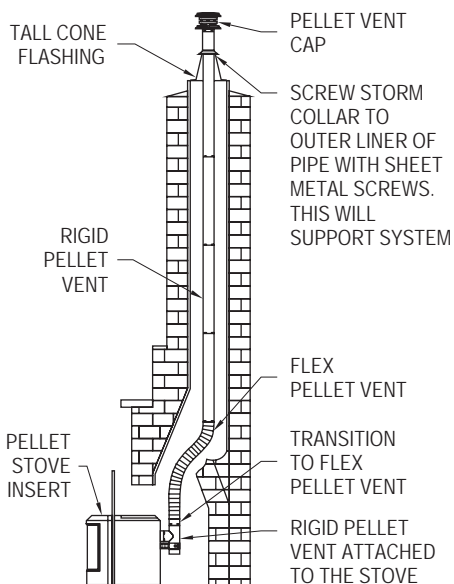
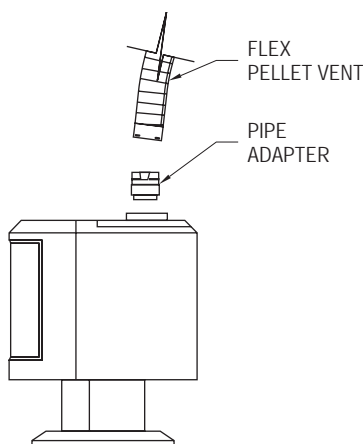

Figure 10
Figure 11
8. In making the connection at the appliance, configurations other than the one shown in *Figure 10* may be made. It may be necessary to contact the manufacturer of the unit to determine exactly what may or may not be done to make the correct connection. Some typical arrangements are shown in *Figures 11 and 12*. An Appliance Adapter may be needed, depending on the exit size of the stove or insert collar.